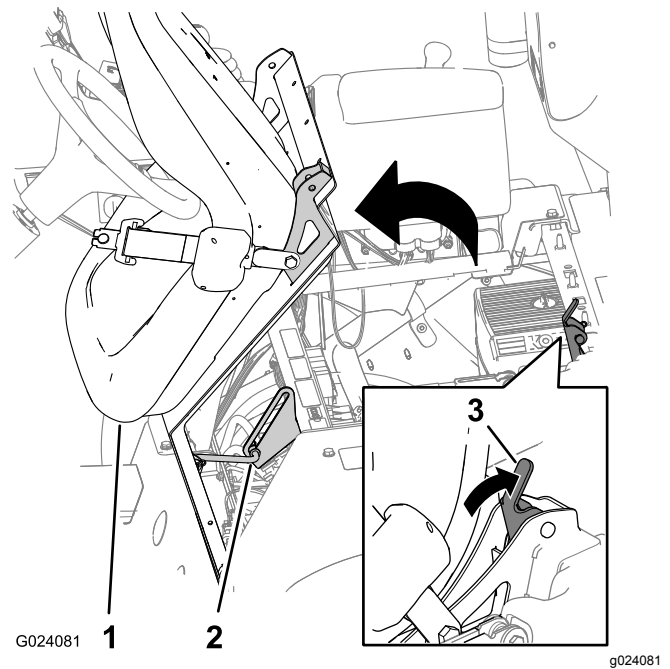

Figure 1
1. Unlatch the seat by pushing the seat-latch handle rearward (Figure 1).
2. Rotate the seat and seat plate forward until the end of the prop rod, at the prop-rod bracket, is at the bottom of the slot in the bracket (Figure 1).